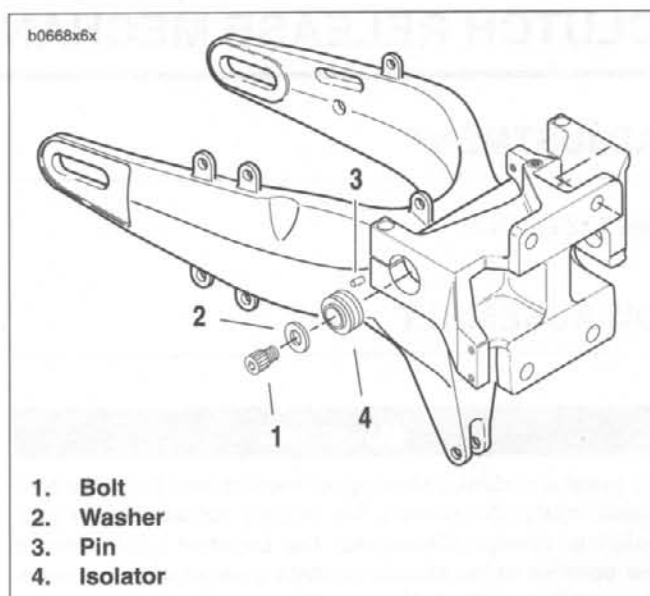
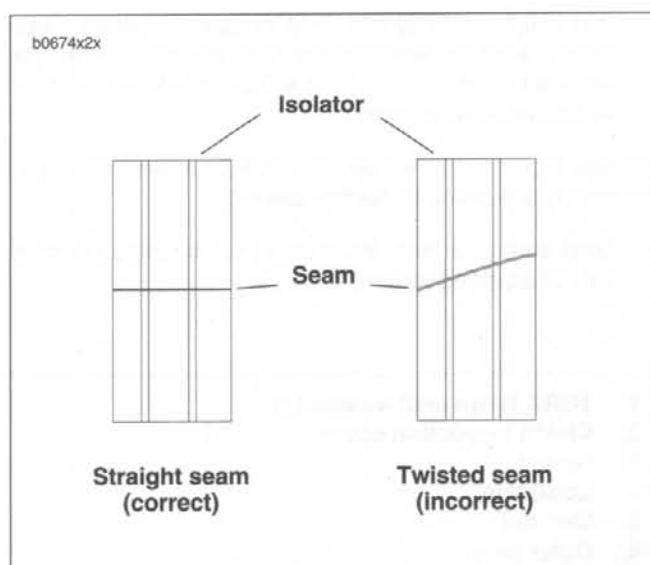

Figure 6-8. Installing Isolators
Figure 6-9. Isolator Alignment
- Observe seam on rubber isolator after isolator bolt is tightened. If seam twists, apply more **LOCTITE ANTI-SEIZE** to underside of isolator bolt heads. Failure to comply will result in damage to rubber isolators. See Figure 6-9.
2. See Figure 6-8. Install rubber isolators (4).
- c. Align metal pin (3) with frame and hole in isolator.
- d. Install isolator bolts (1) and washers (2) through isolators (4) and into the mount.
- f. See Figure 6-9. After tightening isolator bolts, verify that seam on isolators is perpendicular to swingarm mount block.